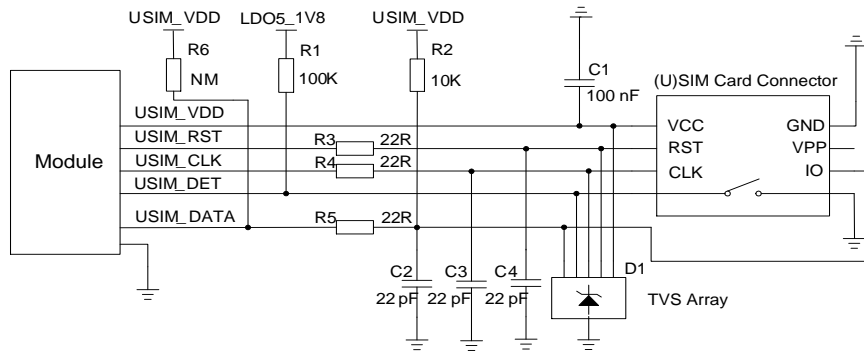
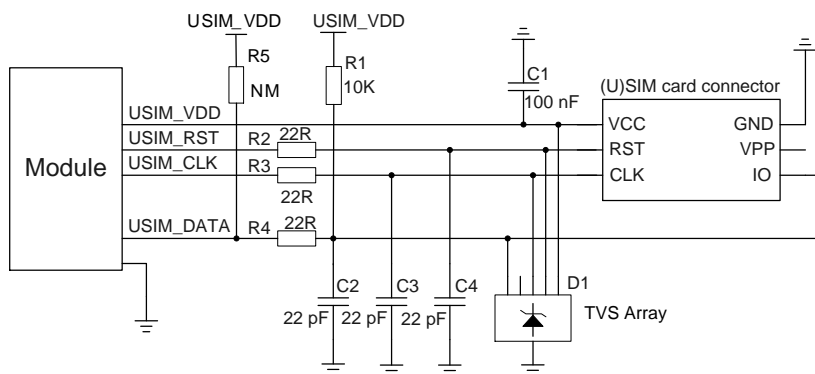

Figure 16: Reference Circuit for (U)SIM Interface with an 8-pin (U)SIM Card Connector
Figure 17: Reference Circuit for (U)SIM Interface with a 6-pin (U)SIM Card Connector
- Place the (U)SIM card connector as close to the module as possible. Keep the trace length as short as possible, at most 200 mm.
- Keep (U)SIM card signals away from RF and VBAT traces.
- Reserve a filter capacitor for USIM_VDD, and its maximum capacitance should not exceed 1 μ F. Additionally, place the capacitor near the (U)SIM card connector.
- In order to ensure good ESD protection, it is recommended to add a TVS array with parasitic capacitance not exceeding 50 pF. Add 22 Ω resistors in series between the module and (U)SIM card to suppress EMI spurious transmission and enhance ESD protection. Please note that the (U)SIM peripheral circuit should be close to the (U)SIM card connector.
- Add 22 pF capacitors in parallel on USIM_DATA, USIM_CLK and USIM_RST signal lines to filter RF interference, and place them as close to the (U)SIM card connector as possible.
- Place the reserved pull-up resistors R6 and R5 in **Figure 16: Reference Circuit for (U)SIM Interface with an 8-pin (U)SIM Card Connector** and **Figure 17: Reference Circuit for (U)SIM Interface with a 6-pin (U)SIM Card Connector** close to the module.